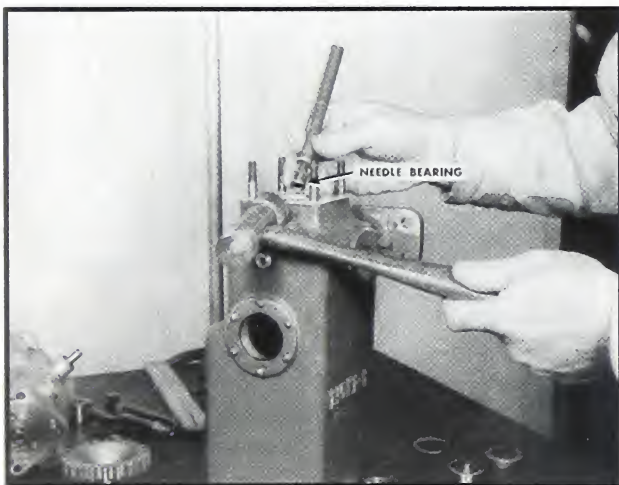

Fig. 5-381. Replace needle bearing
3. Drive driven shaft needle bearing into the housing. Fig. 5-381.